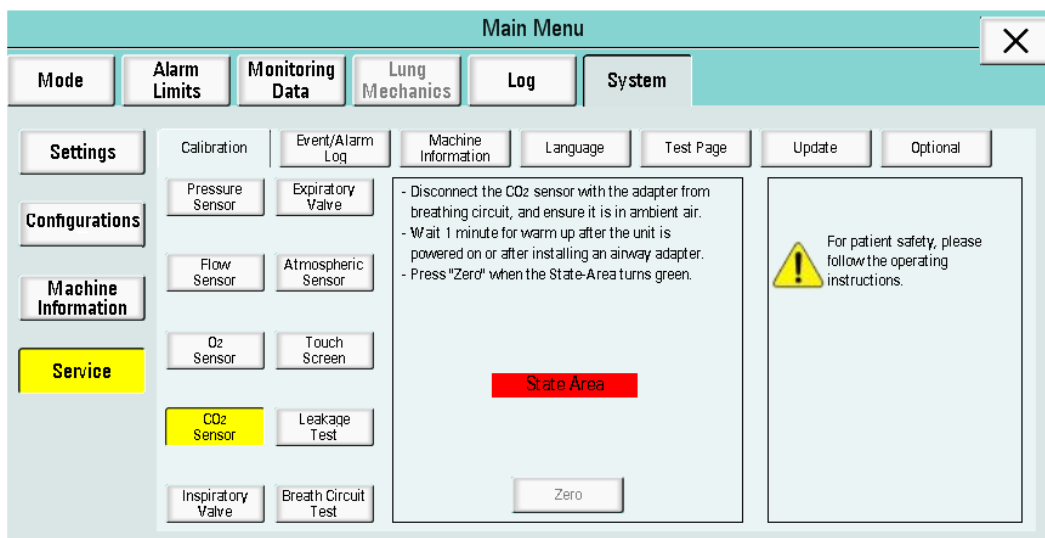

Figure 6-65
(4) CO₂ sensor Calibration: Click “CO₂ Sensor” to enter the interface, as shown in Figure 6-65. A message displayed: “Disconnect the CO₂ sensor with the adapter from breathing circuit and ensure it is in ambient air. Wait 1 minute to warm up after the unit is powered on or after connecting an airway adapter. Press “Zero” when the State-Area turns green”. Please follow the prompt message to calibrate.